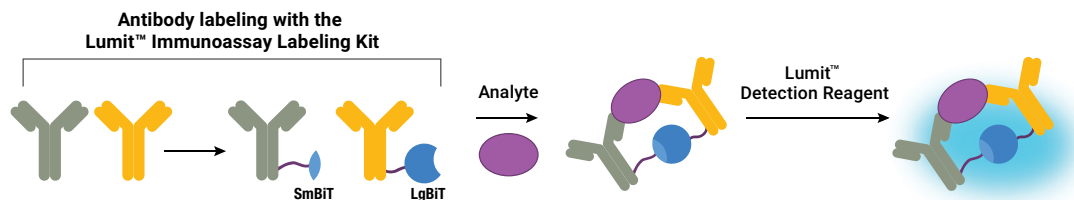

Figure 1. Schematic of Lumit™ Immunoassay.
The Lumit™ Immunoassay is based on NanoLuc® Binary Technology (NanoBiT). NanoBiT is a structural complementation system designed for biomolecular interaction studies (1). The NanoBiT® system is composed of two subunits, Large BiT (LgBiT; 18kDa) and Small BiT (SmBiT; 11 amino acid peptide), that have been optimized for stability and minimal self-association due to weak affinity (190µM). In Lumit™ Immunoassays, antibodies are chemically labeled with SmBiT and LgBiT subunits. Upon binding of the labeled antibodies to an analyte, the subunits come into close proximity, reassemble into a functional luciferase enzyme and generate a luminescent signal in the presence of substrate (Figure 1). Other immunoassay formats, including competition and indirect immunoassays, can also be developed using this technology (2).